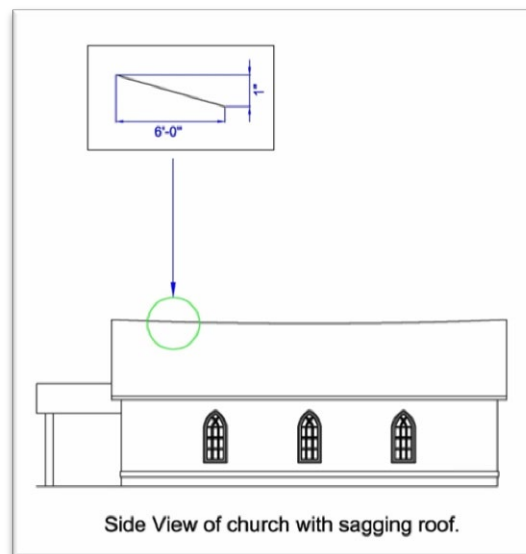

Figure C1: Church with sagging roof.
- Step 1:** Before climbing onto the roof of the church, stand back from the church and look at the roof to see if the roof is sagging in the middle from front to back. Refer to Figure C1 to see a drawing of a church with a sagging roof.